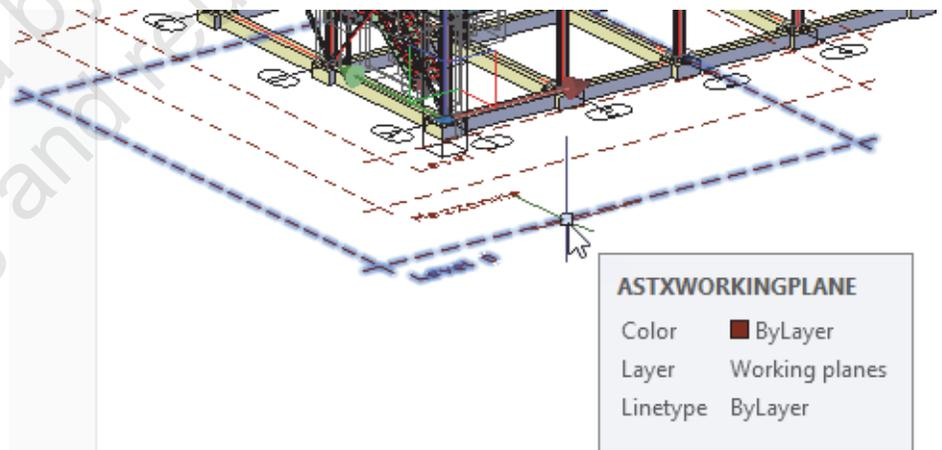

Figure 1-29
5. Select the object labeled **Level 0**. Hover the cursor over the object to display information about the layer it is on, as shown in Figure 1-29. Objects are automatically placed on the appropriate layer in the Autodesk Advance Steel software.